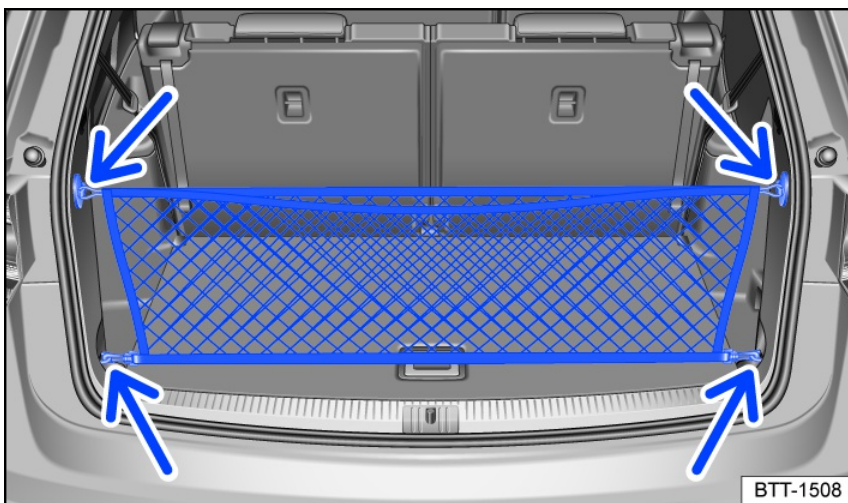

Fig. 161 In the luggage compartment: luggage net secured on the loading edge.
1. Secure the hooks in the luggage net to the tie-downs on the loading edge fig. 161 (bottom arrows) → ⚠. The zipper on the luggage net must face upward.